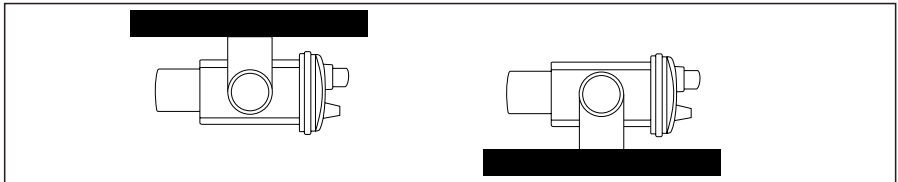

Figure 4. Regular Mounting Bracket
4. Secure the transceiver to the brackets with the mounting knobs (see Figure 4).